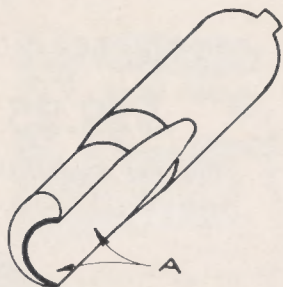

Figure 1
Never grind on the outside diameter of your bit. Always sharpen or grind your bit on the underside of the lip as at (A) (Fig. 1).
The B1 Wheel is used for grinding small size bits having a round flute (Fig. 1).